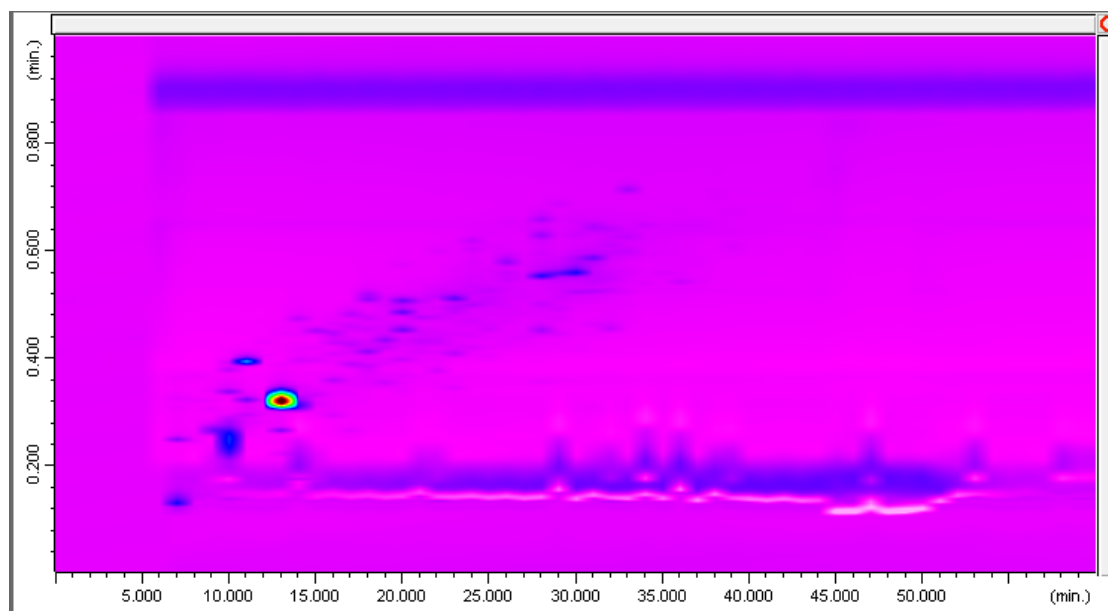

Figure 12.12: Sample datafile containing UV spectra
5. The Map will show the datafile (see Figure 12.12)